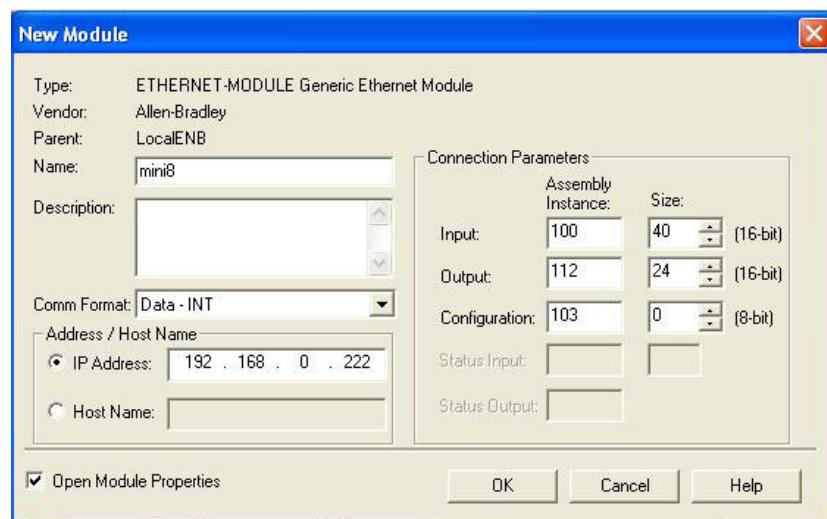

Figure 87 New Module
4. In the New Module page that appears (Figure 87), enter a name for the module, and set Connection Parameter values:
6. Input and Output Size of EtherNet Module match exactly the Input and output Definitions (see Figure 87).
7. Assembly Instance values are supported by the Mini8 controller (see Figure 87).